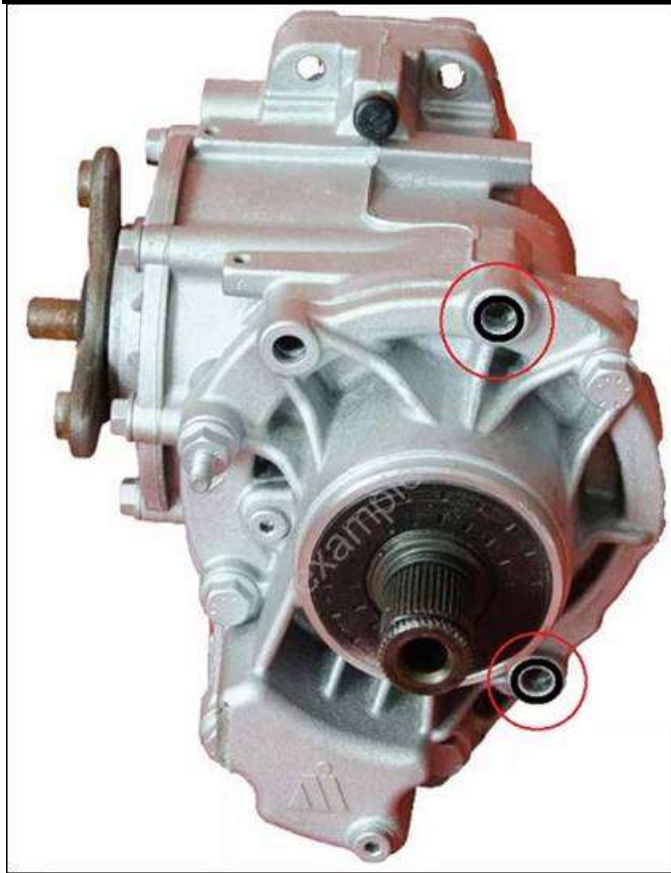

Figure 3.
- Also apply a continuous bead of the silicone sealant to the face of the two bolt holes seen in Figure 3.
Ensure that the silicone sealant is applied as pictured in Figure 3. Only apply silicone sealant to the outer surface of the bevel box and do not allow silicone sealant to get into the bolt holes or threads as reassembly will be difficult.